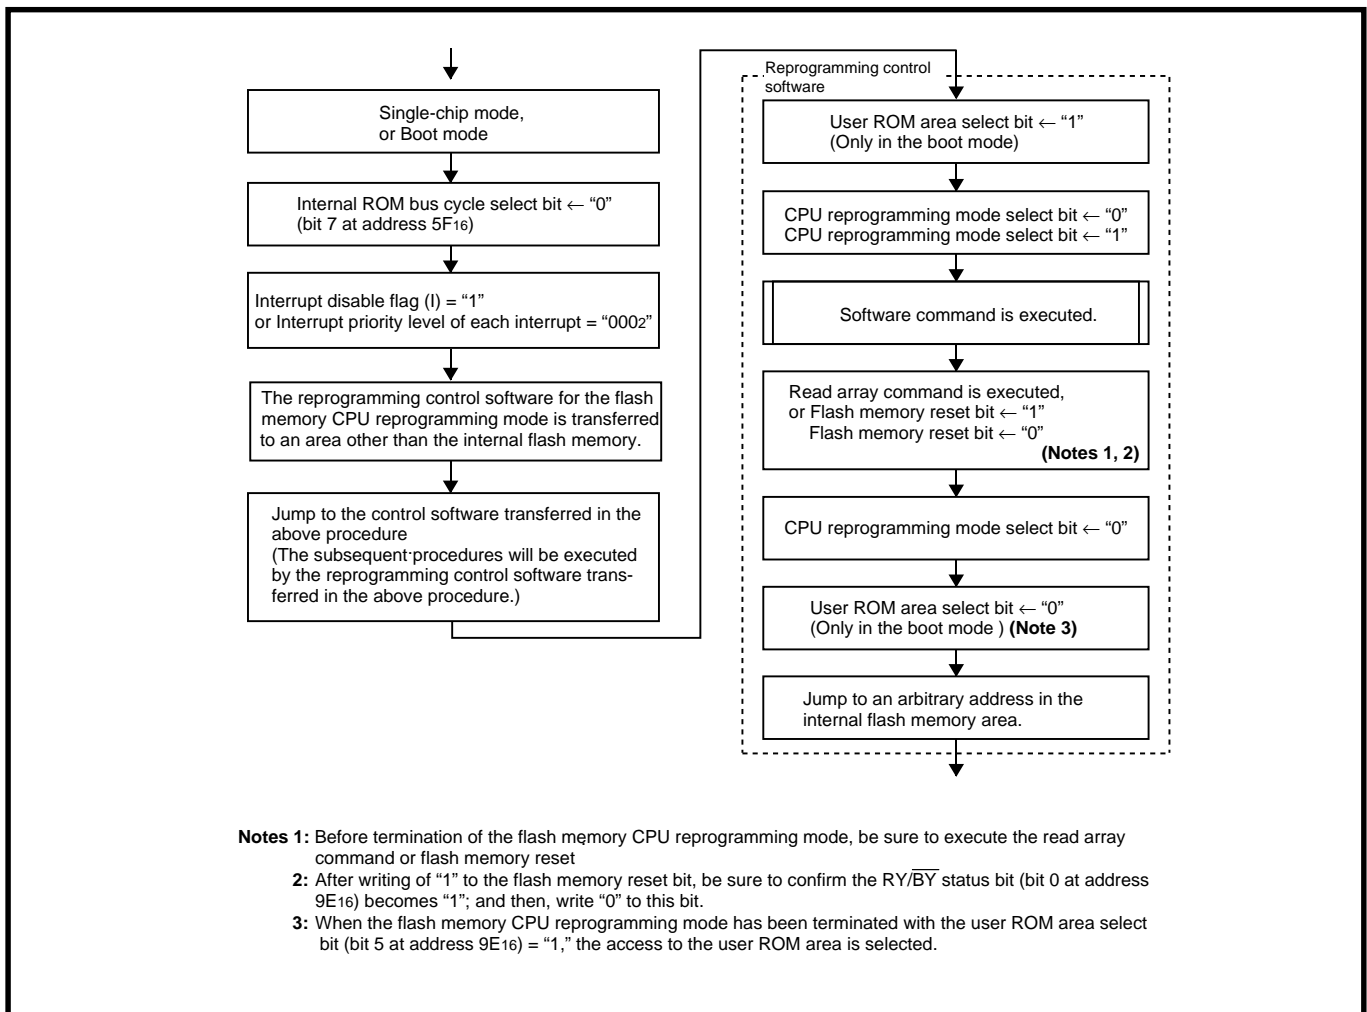

Fig. 19.2.2 Setting and Terminate procedures for flash memory CPU reprogramming mode
Figure 19.2.2 shows the setting and terminate procedures for the flash memory CPU reprogramming mode. In the flash memory CPU reprogramming mode, opcodes cannot be fetched for the internal flash memory. Therefore, be sure to transfer the reprogramming control software to an area other than the internal flash memory and then execute the software in that area.
1. In the flash memory CPU reprogramming mode, an opcode cannot be fetched for the internal flash memory. Accordingly, be sure to transfer the reprogramming control software to an area other than the internal flash memory area, and then execute the software in this area. (See Figure 19.2.2.) Also, take consideration for instruction description (such as specified addresses, addressing modes) in the reprogramming control software since this software is to be executed in an area other than the internal flash memory area.
2. In order to prevent any interrupt occurrence during the flash memory CPU reprogramming mode, before selecting this mode, be sure to set the interrupt disable flag (I) to "1" or set the interrupt priority level to "000₂" (interrupts disabled). Also, we recommend to connect pins $\overline{P4OUT}_{CUT}$ and $\overline{P6OUT}_{CUT}$ with V_{CC} via resistors, respectively. Even in the flash memory CPU reprogramming mode, periodically writing to the watchdog timer is required. Also, an interrupt, hardware reset, or software reset, generated in the CPU reprogramming mode, makes program runaway. If a program runaway has occurred, be sure to push the microcomputer into the power-on reset state.